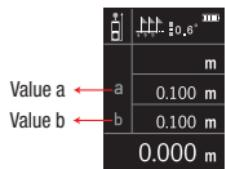

Fig. 9
1. long press button the device shows as fig. 9